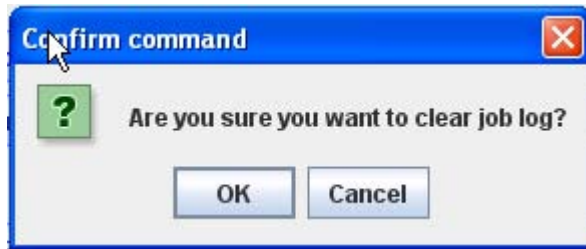

FIG. 20: Clear Job Log
**Clear job log** - deletes the jobs from the display. The screen will prompt for confirmation. See FIG. 20.